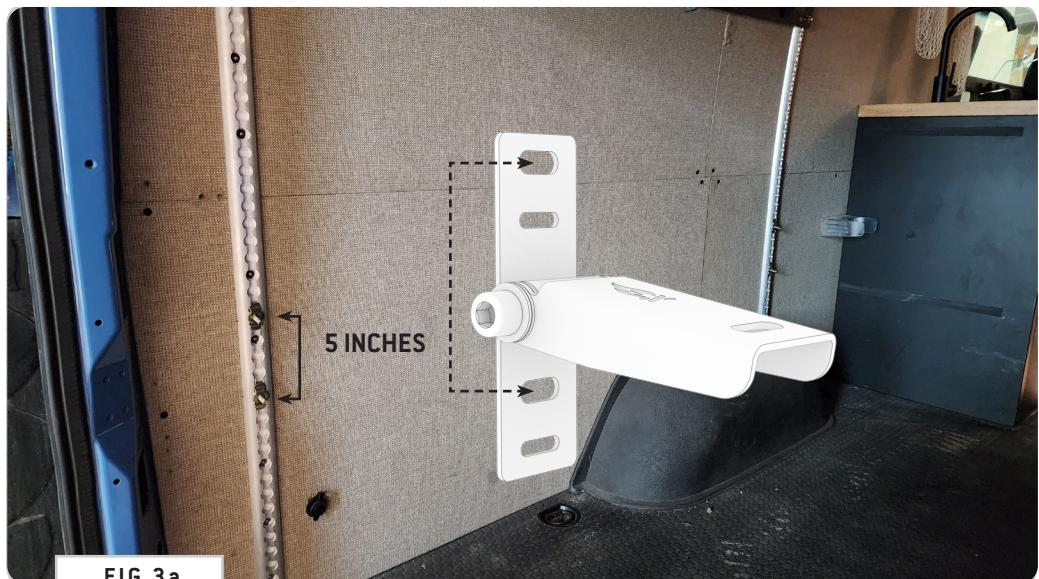

FIG 3a
**1.1a Determine Install Height:** Dry fit Hinge Assemblies to your L-Track and determine the desired install height of your Solo Bed (FIG 3a).